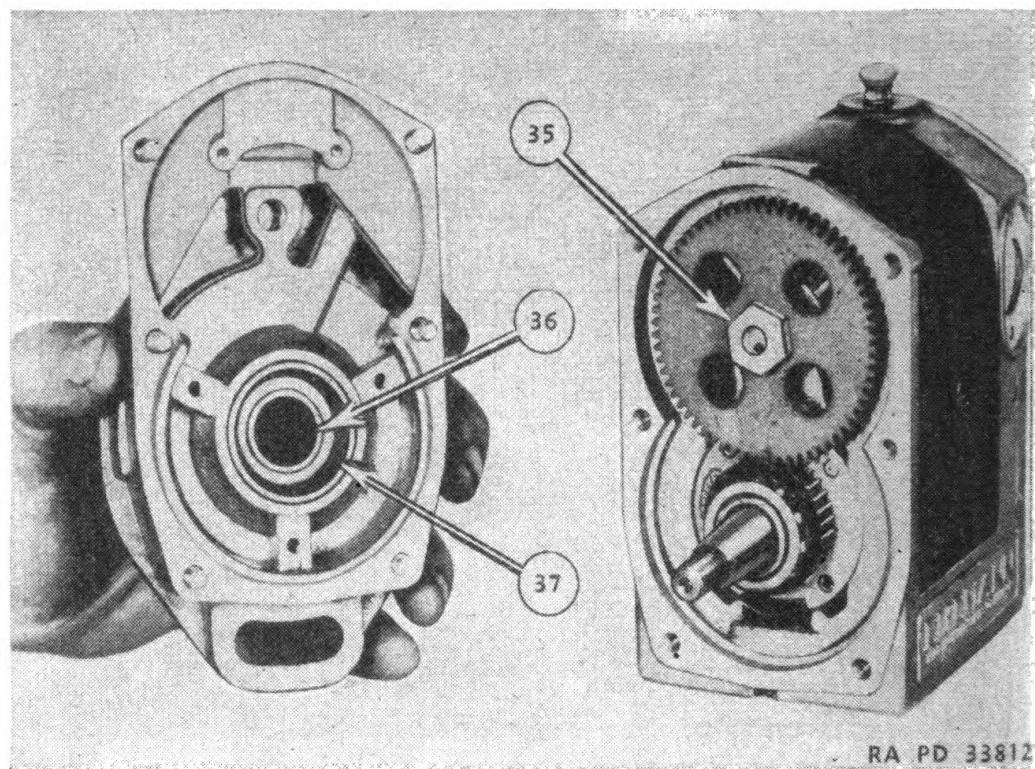

FIGURE 96.—Shaft removal.
c. Remove cotter pin and nut (35) (fig. 96) on the shaft and gently tap the shaft out of the gear.
g. Line up slot in the outer race with pin (42) in the housing before pressing the bearings into position.
i. The seal (36) (fig. 96) should be replaced if damaged.
b. Use wedge (22413) and puller body (19990) (fig. 95②) to remove the outer race (37) (fig. 96) from the housing. Arbor (19987) (fig. 95①) and support (19983) should be used to install this outer bearing race.